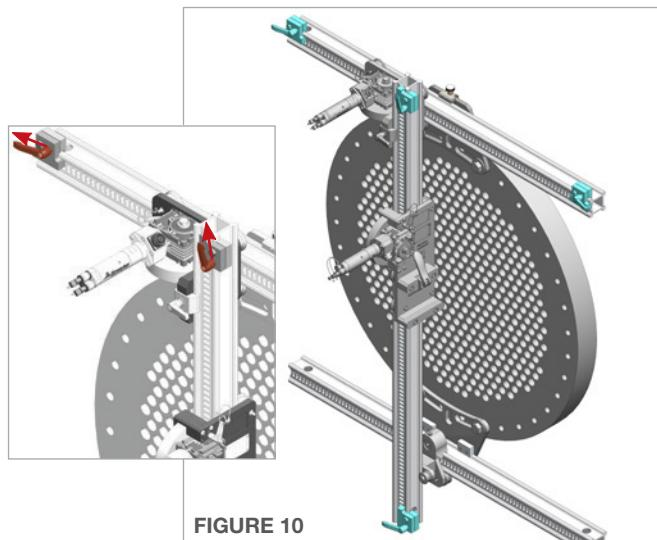

FIGURE 10
- Loosen the handles on the four **Rail Stops** and slide one onto both ends of the top horizontal rail and both ends of the vertical rail. Rotate all the handles so they face away from Horizontal and Vertical Drives (as shown) and ensure that they are securely fastened. **(Figure 10)**